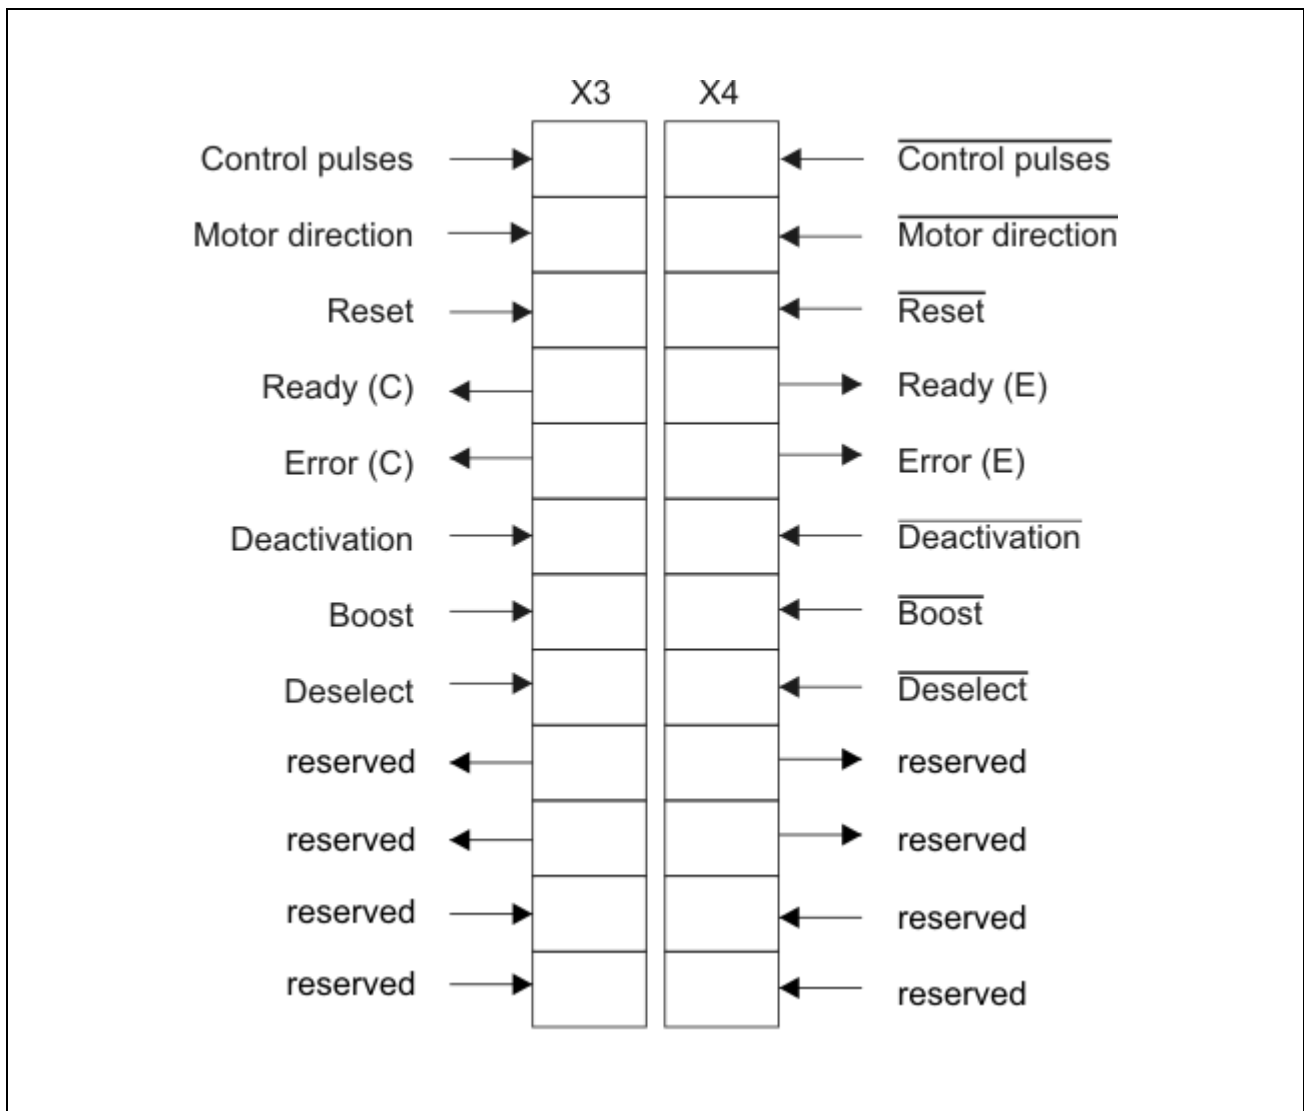

Fig. 16: I/O Signal Connectors
6. Test the menu functions shown in Fig. 16 and the stepper motor should turn. This functions can be done without connecting a superior control.